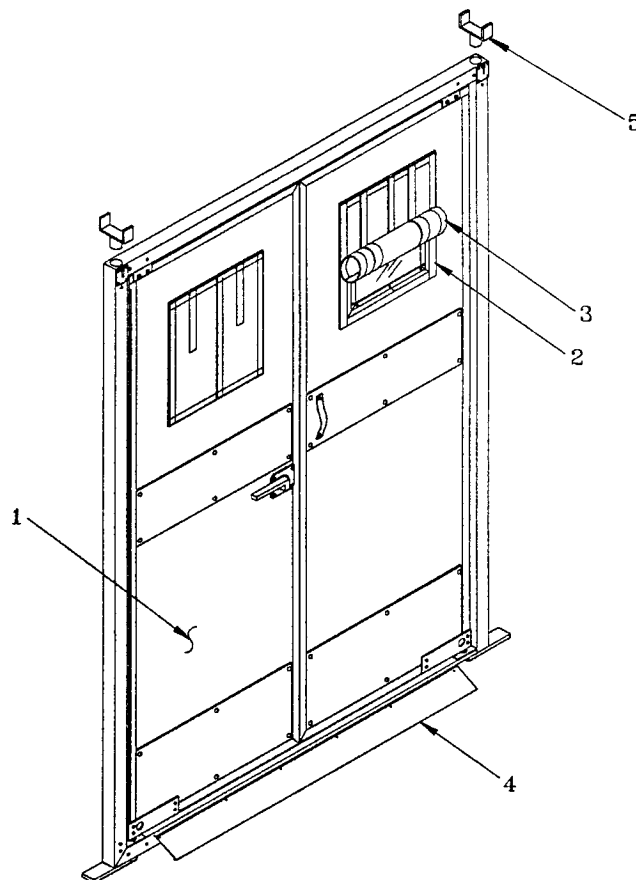

Figure 1-3.
(1) Arch Assembly. The arch assembly consists of two aluminum side arch assemblies and an aluminum roof arch assembly. The arch assembly can easily be folded into a closed "W" configuration for easy handling and transport. A non-sectionalized arch assembly and a sectionalized arch assembly are currently fielded. The difference between both types is that the sectionalized arch assembly consists of two interlocking pieces that are joined and held together by a quick release pin. The non-sectionalized arch assembly overall length is 113 inches and the sectionalized arch assembly overall length is 98 inches allowing easy transport by USAF aircraft.
(2) Header Assembly. The header assembly is made from aluminum rectangular tubing with a cross section of 1 1/4 x 2 1/2 inches and has an overall length of 98 inches. Steel plates are riveted to the ends to allow attachment to the arch assembly.
(3) Purlin Assembly. The purlin assembly is made from tubular aluminum approximately 96 inches long x 1 1/2 inches in diameter. Folding diagonal braces which have "U" shaped cross sections are riveted to each end of the purlin. At the end of each brace is a rotating brace stud and brace shackle. The brace stud and the purlin end fitting lock into slots in the arch assembly. Five purlins, one at the ridge, one at both eaves and one at each base are required to join two arch assemblies.
(4) Eave Extender Assembly. The eave extender assembly is made from tubular aluminum with a single foot, web-reinforced base welded to the bottom of the center length of tubing. Two hitch clip pins are fastened to the extender.
(5) Ridge Extender Assembly. The ridge extender assembly is made from tubular aluminum with a two-footed, web-reinforced base welded to the bottom of the center length of tubing. A hitch clip pin is fastened to the extender.
(6) Frame Sections Cover Assembly. The frame sections cover assembly is diaper shaped, made of heavyweight, coated cloth with interior straps to secure frame components and exterior straps which bind the assembly together.
(7) Door Sill Assembly. The door sill assembly is made from tubular aluminum with a four foot long rotating door sill bolted to the center of the tubular section. Folding diagonal braces which have a "U" shaped cross section are riveted to each end of the door sill assembly. At the end of each brace is a rotating brace stud and brace shackle. The brace stud and the door sill end fitting lock into slots at the base of the arch assembly.
(8) Vestibule Frame Assembly. The vestibule assembly is composed of three components made of aluminum tubing: two upright poles with attached baseplate, and a header. Holes in the baseplate permit the assembly to be staked to the ground. Three vestibule frame assemblies are required to support a vestibule with door.
c. Double Bump-Through Door Assembly. The double bump-through doors consist of two spring-loaded swinging doors (1) mounted in an outer frame. The doors are constructed of a honeycombed core sandwiched between aluminum skins. A window (2) and blackout flap (3) are located on each door. Hinged ramps (4) at the bottom of the frame permit easy access by wheeled items. The double bump-through doors are designed for use with tent end section adapters, tent door section adapters, and vestibules. A vestibule door cap must be used to provide complete weather resistance. The doors can also be used at end sections with the adapter rolled back and tied in place. Extenders (5) are supplied with the door and are only used in the end section application. The double bump-through door is illustrated in Figure 1-3.